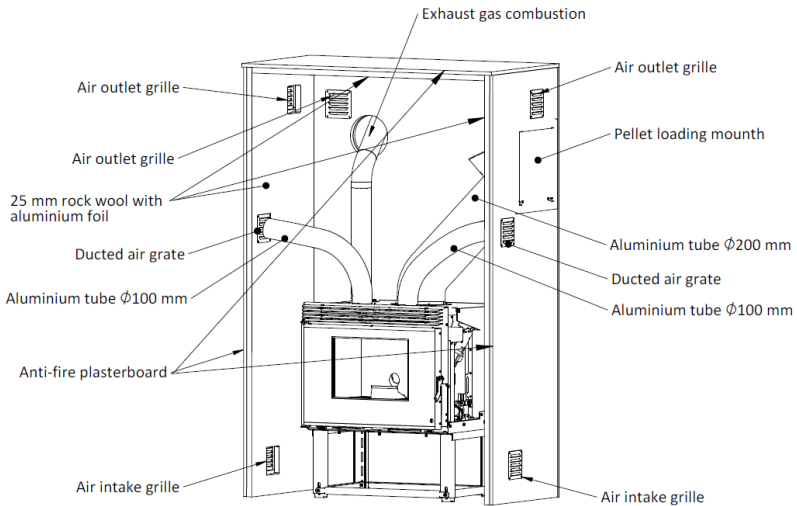

Figure 22 - Installation of the pellet insert
- In the installation example (Figure 22), it can be verified that the pipes are placed to channel the hot air outlet to the room where the insert is installed, but could be installed to carry hot air to neighbouring rooms. The maximum length of pipes without installing an air extraction box is 3-4m.